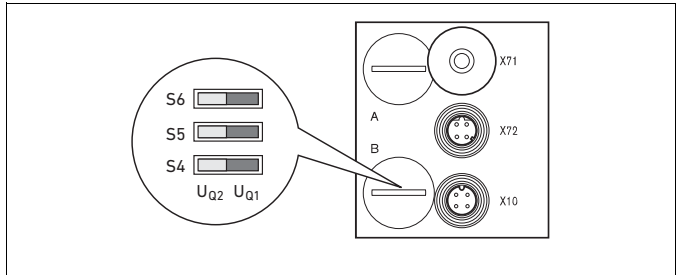

Fig. 6: S4, S5, S6 switches for assigning valve supply voltages (U_{Q1} , U_{Q2})
The S4, S5, and S6 switches for assigning the valve supply are located beneath PG fitting **B** (see fig. 6). The following is assigned to each switch:
1. Open the lower screw cap **B** (see fig. 6 on page 58).
2. Using the S4, S5, and S6 switches, assign each valve group to one of the two supply voltages U_{Q1} or U_{Q2} (see fig. 6 und tab. 14 on page 58).